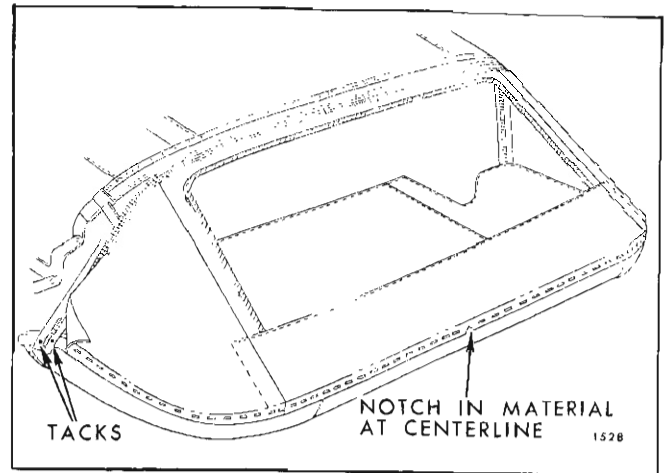

Fig. 1-I-47—Back Curtain Installation
9. Inspect rubber trim stick fillers cemented to body below pinchweld. Re-cement, if necessary (Fig. 1I48).